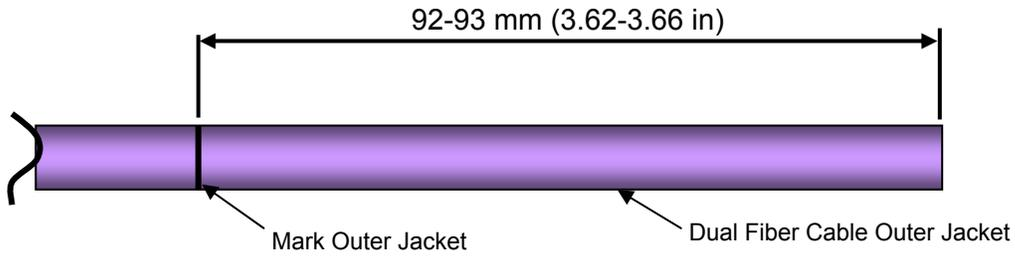

Figure 7-9 – Marking the Outer Jacket of the Dual Fiber Cable
Step 1 - Mark the outer jacket of the dual fiber cable jacket to 92-93mm (3.62-3.66 in). See Figure 7-9.